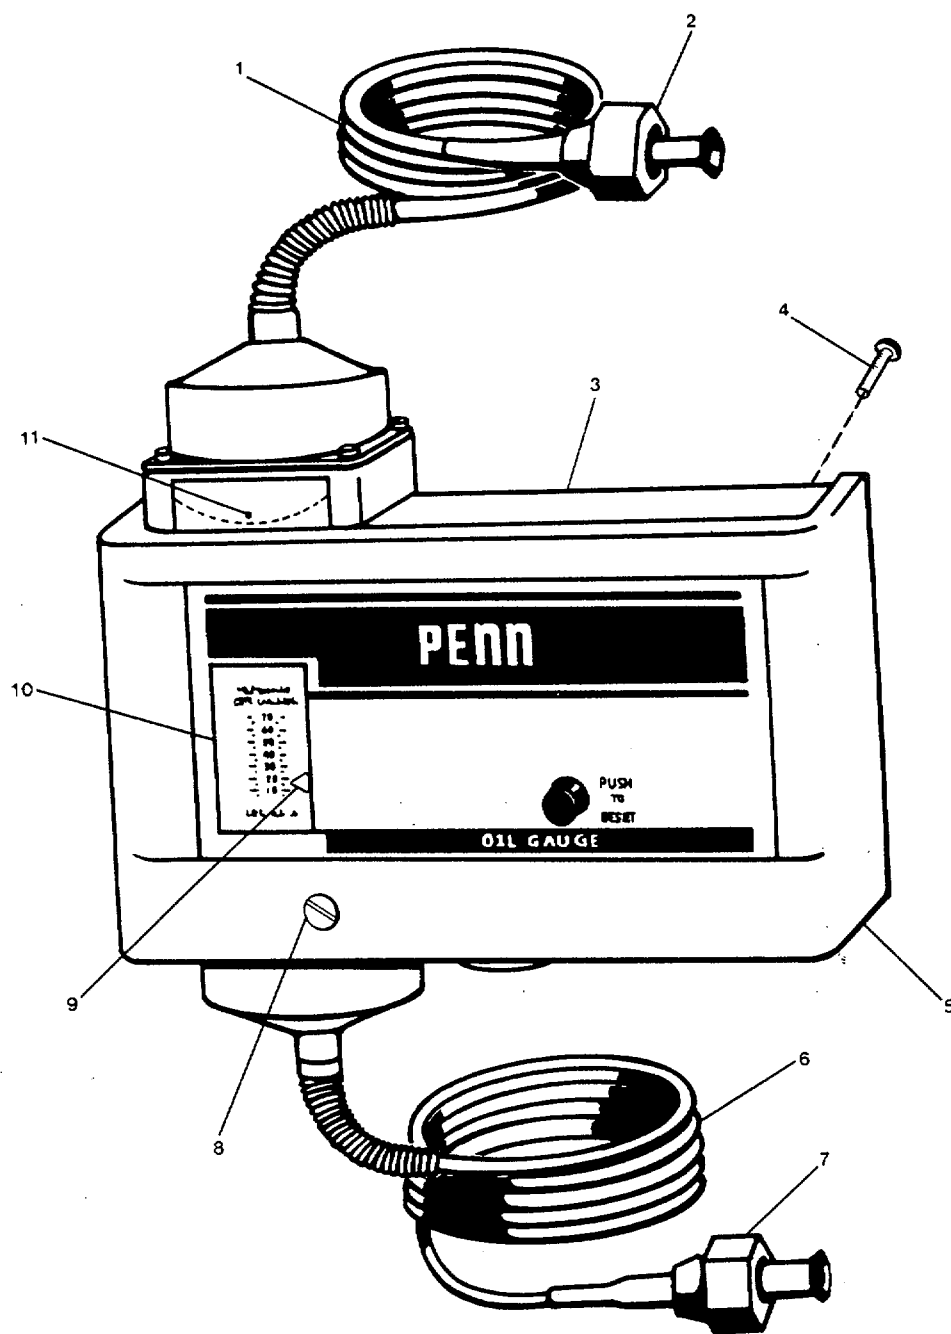

Figure 4-4. Oil Pressure Switch.
- (1) The proper oil pressure cutout setting is 10 psi net oil pressure on the oil pressure switch (FIGURE 4-4). When a new pressure switch is installed the setting on the switch must be checked for proper setting. If the pointer (9) is not set (or pointing to) 10 psi on the setting indicator (10), the switch must be adjusted.
- a. Replace pressure switch (3, FIGURE 4-4) as follows:
- (1) Remove screw (8) and slide cover (5) from pressure switch (3) to access electrical wiring connections.
- (2) Tag and disconnect external wiring to pressure switch (3).